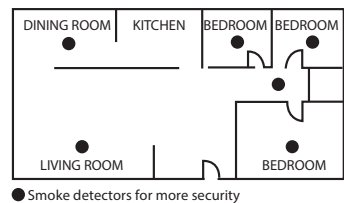

Figure 2:
- Install a smoke detector in each separate room and exit way except kitchen, as shown in Figure 1 and Figure 2.